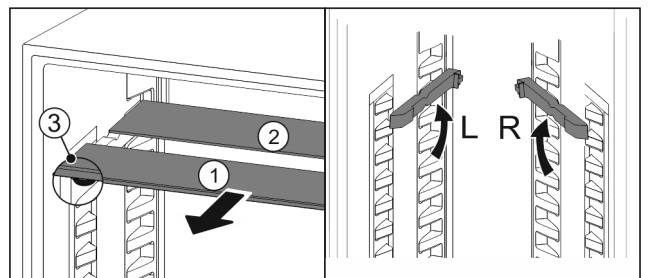

Fig. 28
- ▶ Pull the glass panels out Fig. 28 (1) from the front, one at a time.
- ▷ The glass panel *Fig. 28 (1)* and trim strip are at the front.
- ▷ The stops *Fig. 28 (3)* point down.